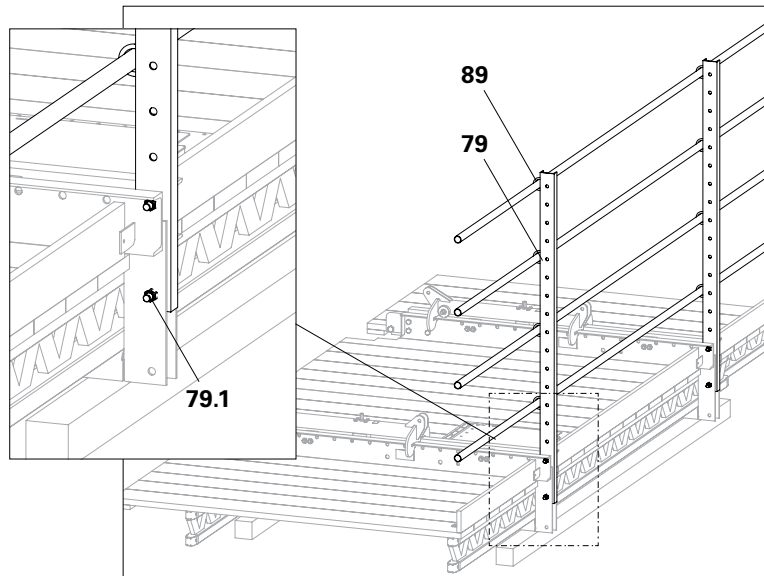

Fig. C2.04
2. Fix Scaffold Tubes Ø 48 to the Guardrail Post using Clamp A64 (**89**), see Section "Guardrails" on page 48. (Fig. C2.04)